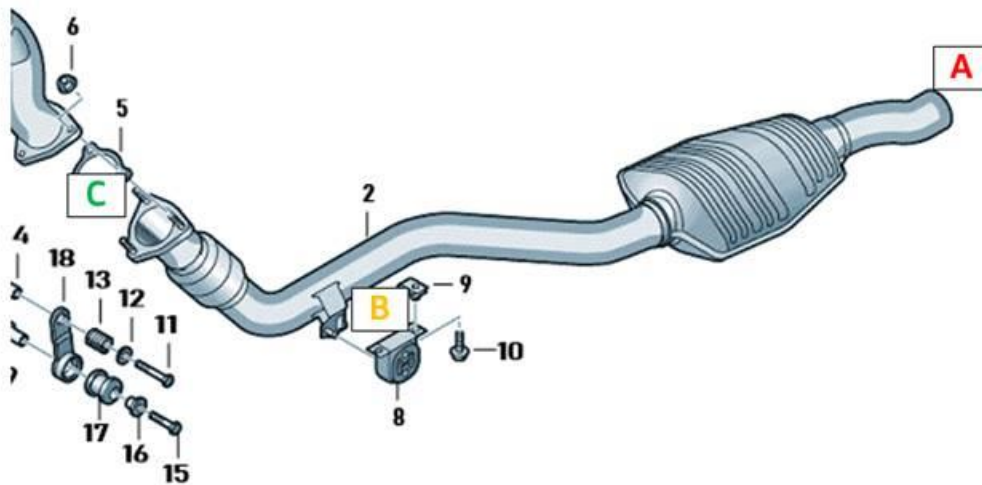

Figure 1. Example of locations to loosen and tighten.
3. Loosen the exhaust clamp (A), exhaust bracket (B). Then re-tighten beginning with clamp (A) and then the bracket (B) (Figure 1).
4. Test drive and if issue persists continue with the following step (Figure 1):
- Repeat and loosen the exhaust at (A), (B), and also the flange (C) to the catalytic converter.
- Then tighten in the following sequence: First, the flange (C), second the exhaust clamp (A), and finally the exhaust bracket (B).